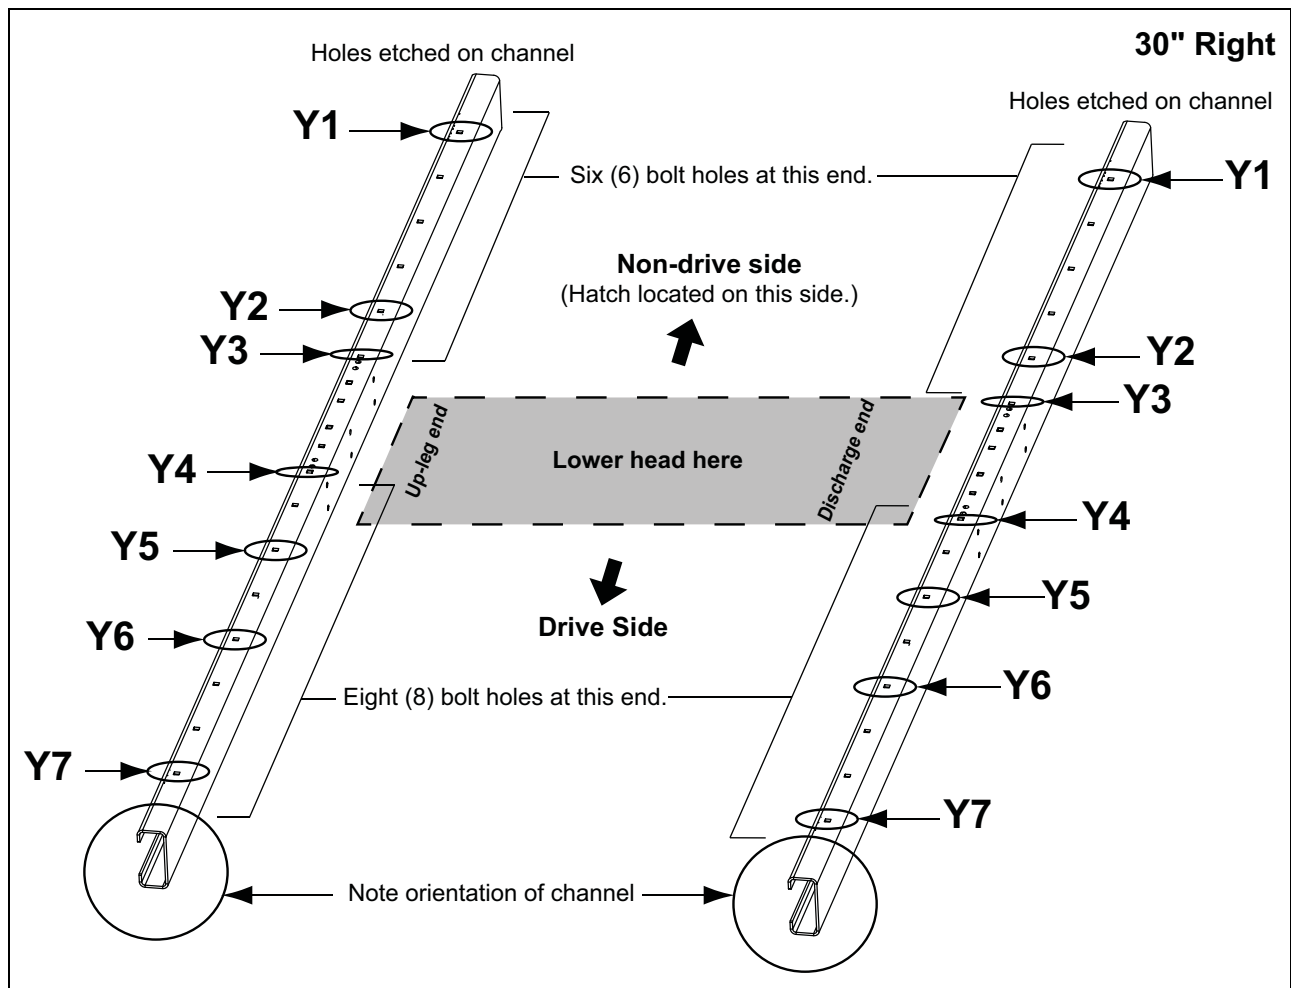
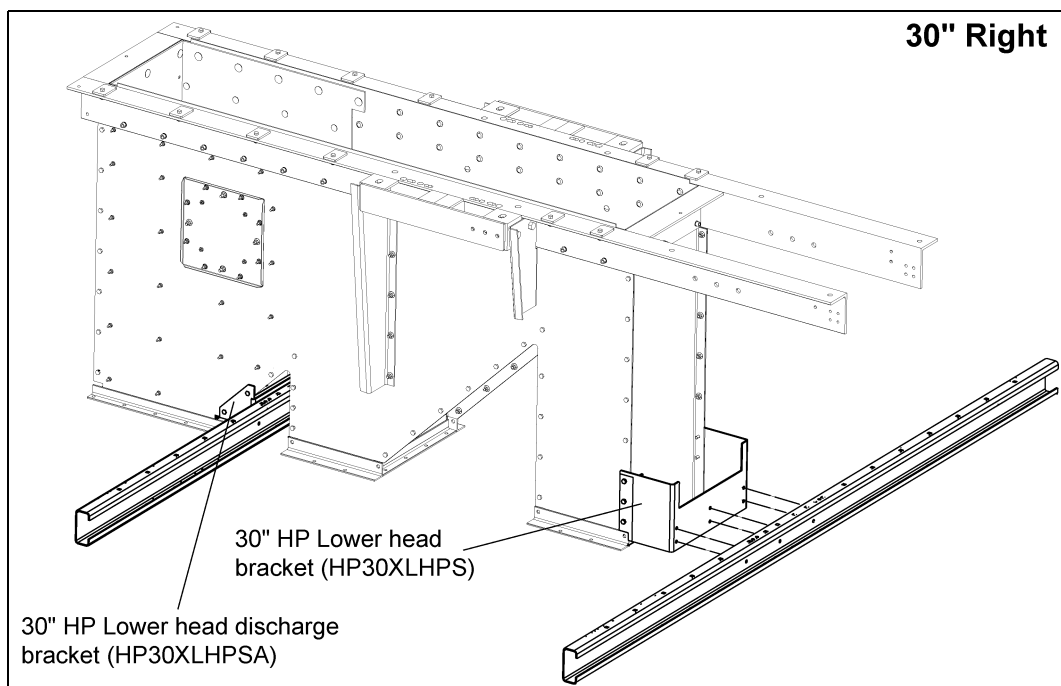

Figure 8B 30" Right Side Drive Channel Position
Figure 8C 30" Right Drive - Cross Deck Support Channels to Lower Head Brackets
(See Figure 8C on Page 47.)
3. Attach cross deck support channels (HP36DSCX) to the top-most set of holes of the lower head brackets (HSP36130) using 3/8" x 1" bolts and nuts and properly. (See Figure 8C on Page 47.)
***NOTE:** *The channels MUST be oriented as shown in Figure 8B and Figure 8C on Page 47 in order for the decking and subsequent assembly to be done correctly.*